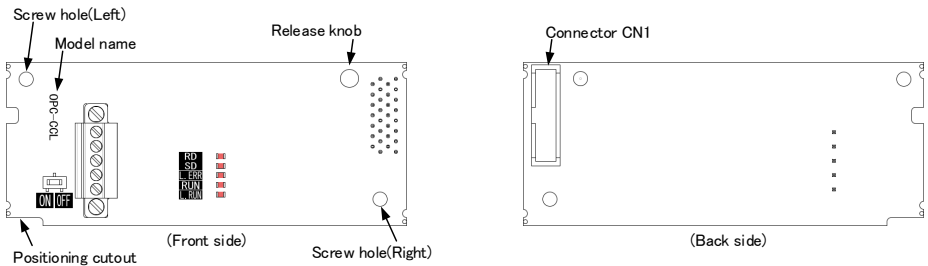

Figure 1.1 Names of Parts on CC-Link Communications Card
- (1) A communications card, two screws (M3 × 8), and the CC-Link Communications Card Instruction Manual (this manual) are contained in the package.
- (2) The communications card is not damaged during transportation--no defective parts, dents or warps.
- (3) The model name "OPC-CCL" is printed on the communications card. (See Figure 1.1.)
- (2) Insert connector CN1 on the back of the communications card (Figure 1.1) into the option connection ports. Then secure the communications card with the two screws that come with the card. (Figure 3.2)
Note Check that the positioning cutout (shown in Figure 1.1) is fitted on the tab (Ⓐ in Figure 3.2) and connector CN1 is fully inserted (Ⓑ in Figure 3.2). Figure 3.3 shows the communications card correctly mounted.